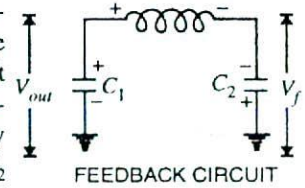

Fig. 16.11
Circuit operation. When the circuit is turned on, the capacitors C_1 and C_2 are charged. The capacitors discharge through L , setting up oscillations of frequency determined by $\exp^*(i)$. The output voltage of the amplifier appears across C_1 and feedback voltage is developed across C_2 . The voltage across C_2 is 180° out of phase with the voltage developed across C_1 (V_{out}) as shown in Fig. 16.11. It is easy to see that voltage feedback (voltage across C_2) to the transistor provides positive feedback. A phase shift of 180° is produced by the transistor and a further phase shift of 180° is produced by $C_1 - C_2$ voltage divider. In this way, feedback is properly phased to produce continuous undamped oscillation.
* Referring to Fig. 16.11, it is clear that C_1 and C_2 are in series. Therefore, total capacitance C_T is given by;
** Referring to Fig. 16.11, the circulating current for the two capacitors is the same. Further, capacitive reactance is inversely proportional to capacitance.